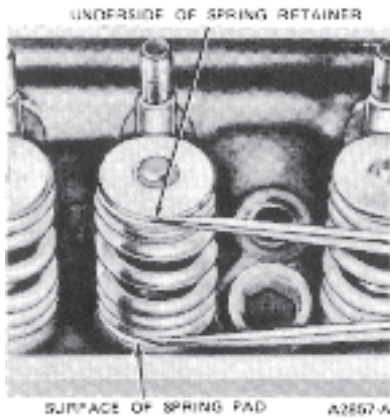

Fig. 45 Valve Spring Assembled Height
3. Measure the assembled height of the valve spring from the surface of the cylinder head spring pad to the underside of the spring retainer with dividers (Fig. 45). Check the dividers against a scale. If the assembled height is greater than specifications, install the necessary 0.030 inch thick spacer(s) between the cylinder head spring pad and the valve spring to bring the assembled height to the recommended height.